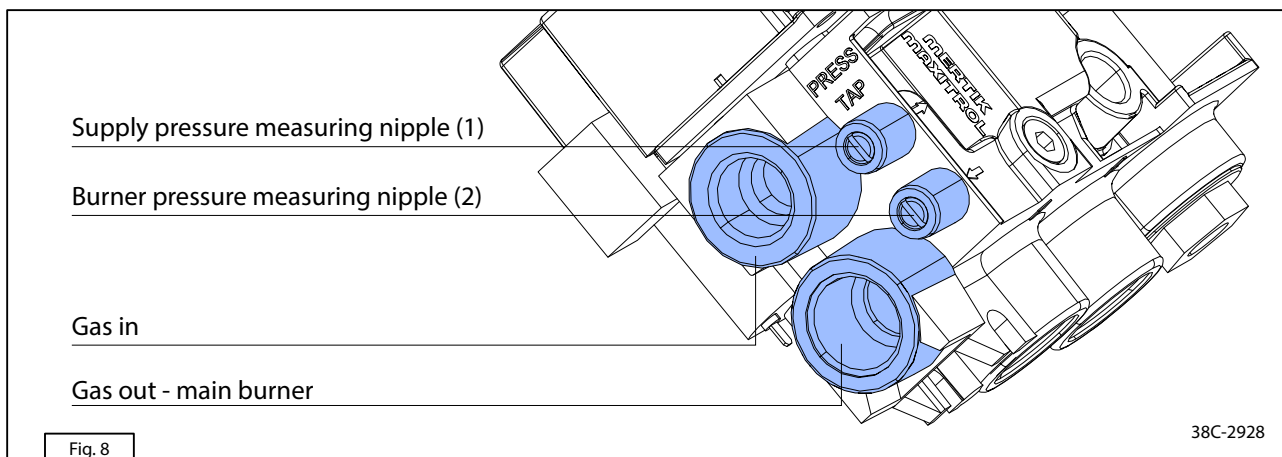

Fig. 8
- Open the valve of the burner pressure measuring nipple a few turns with a flat-head screwdriver and connect the pressure gauge (see Fig. 8, (2)).
- Disconnect the pressure gauge and close the valve of the burner pressure measuring nipple (2) (see Fig. 8).